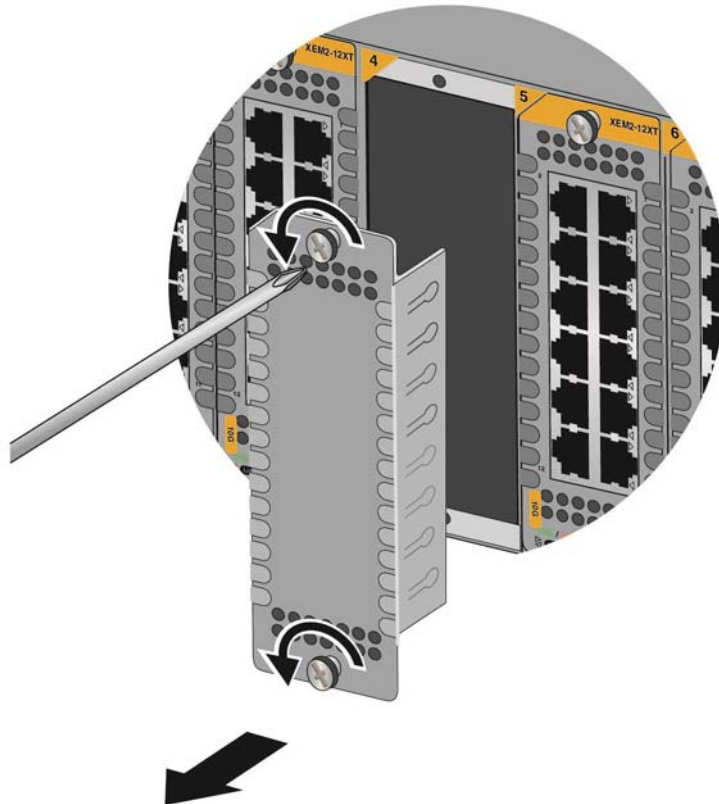

Figure 36. Removing a Blank Line Card Cover
2. If the chosen slot for the card is covered with a blank panel, use a #2 Phillips-head screwdriver to loosen the two captive screws on the panel and remove it from the chassis. Refer to Figure 36.